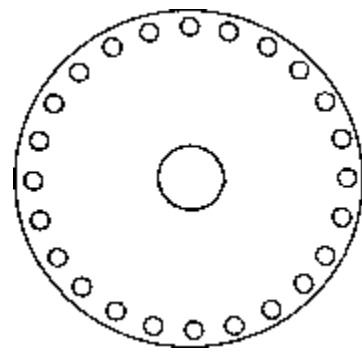

Figure 13
- high starting torque motor - figure 13;